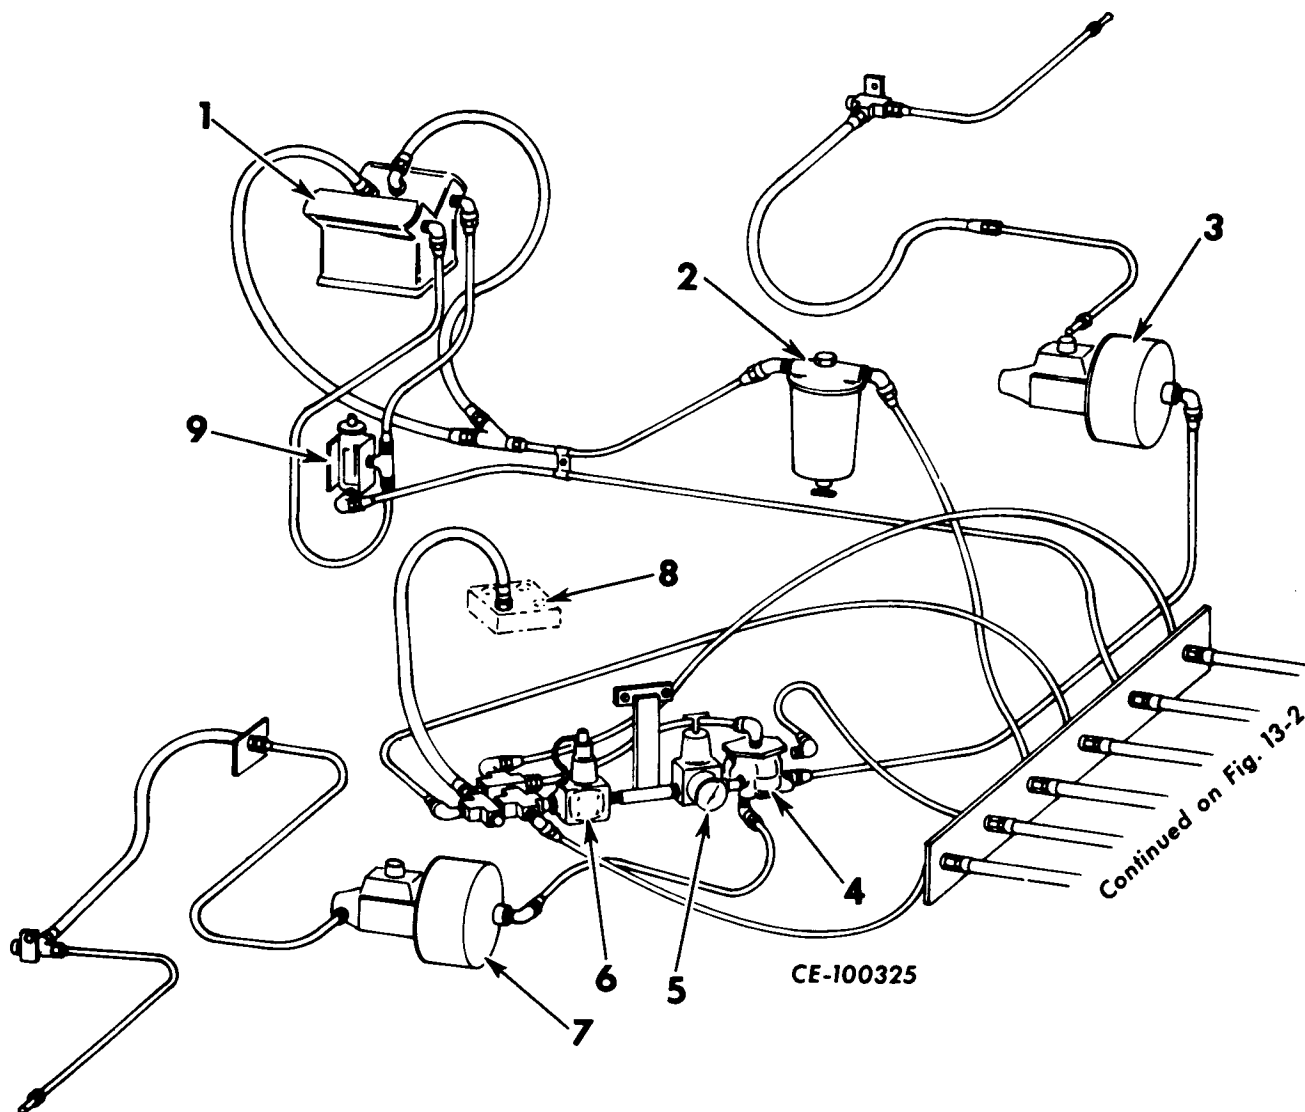

Figure 13-1
The brake system is a combination air over hydraulic type. An engine driven compressor (1, Fig. 13-1) supplies compressed air for the system. The compressed air is stored in air reservoirs (17, 20, 21, Fig. 13-2), located under the operator's compartment deck. Air compressor output is regulated by a governor (9, Fig. 13-1) which is located between the compressor and the reservoir. Brake operation is controlled by two brake treadle valves (26 and 27, Fig.
13-2). When a brake treadle is depressed, a flow of compressed air is directed from the secondary reservoir (21) to the power clusters (14, 22 and 3, 7, Fig. 13-1). The air cylinders in the power clusters then act upon the hydraulic cylinder portions directing a flow of hydraulic fluid to the wheel cylinders in each brake assembly, applying the wheel brakes.